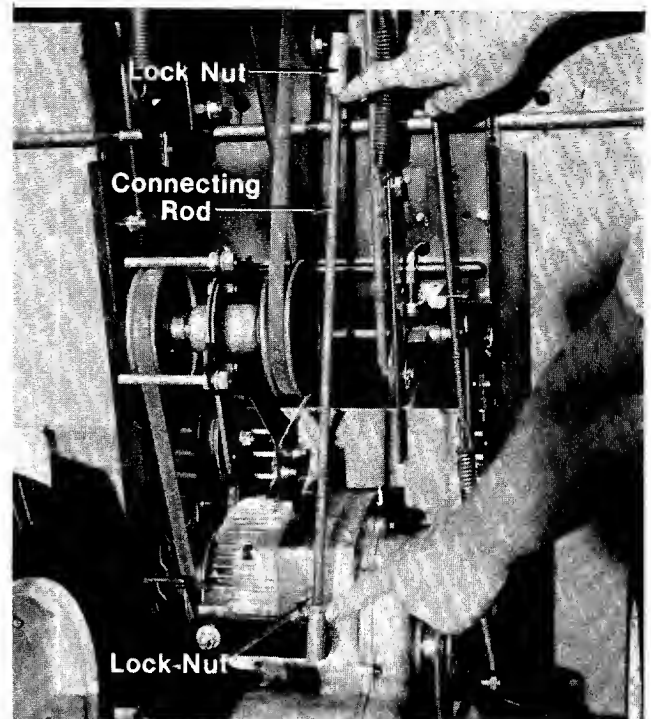

FIGURE 10.
2. Loosen both lock nuts on both ends of the connecting rod. See figure 10.